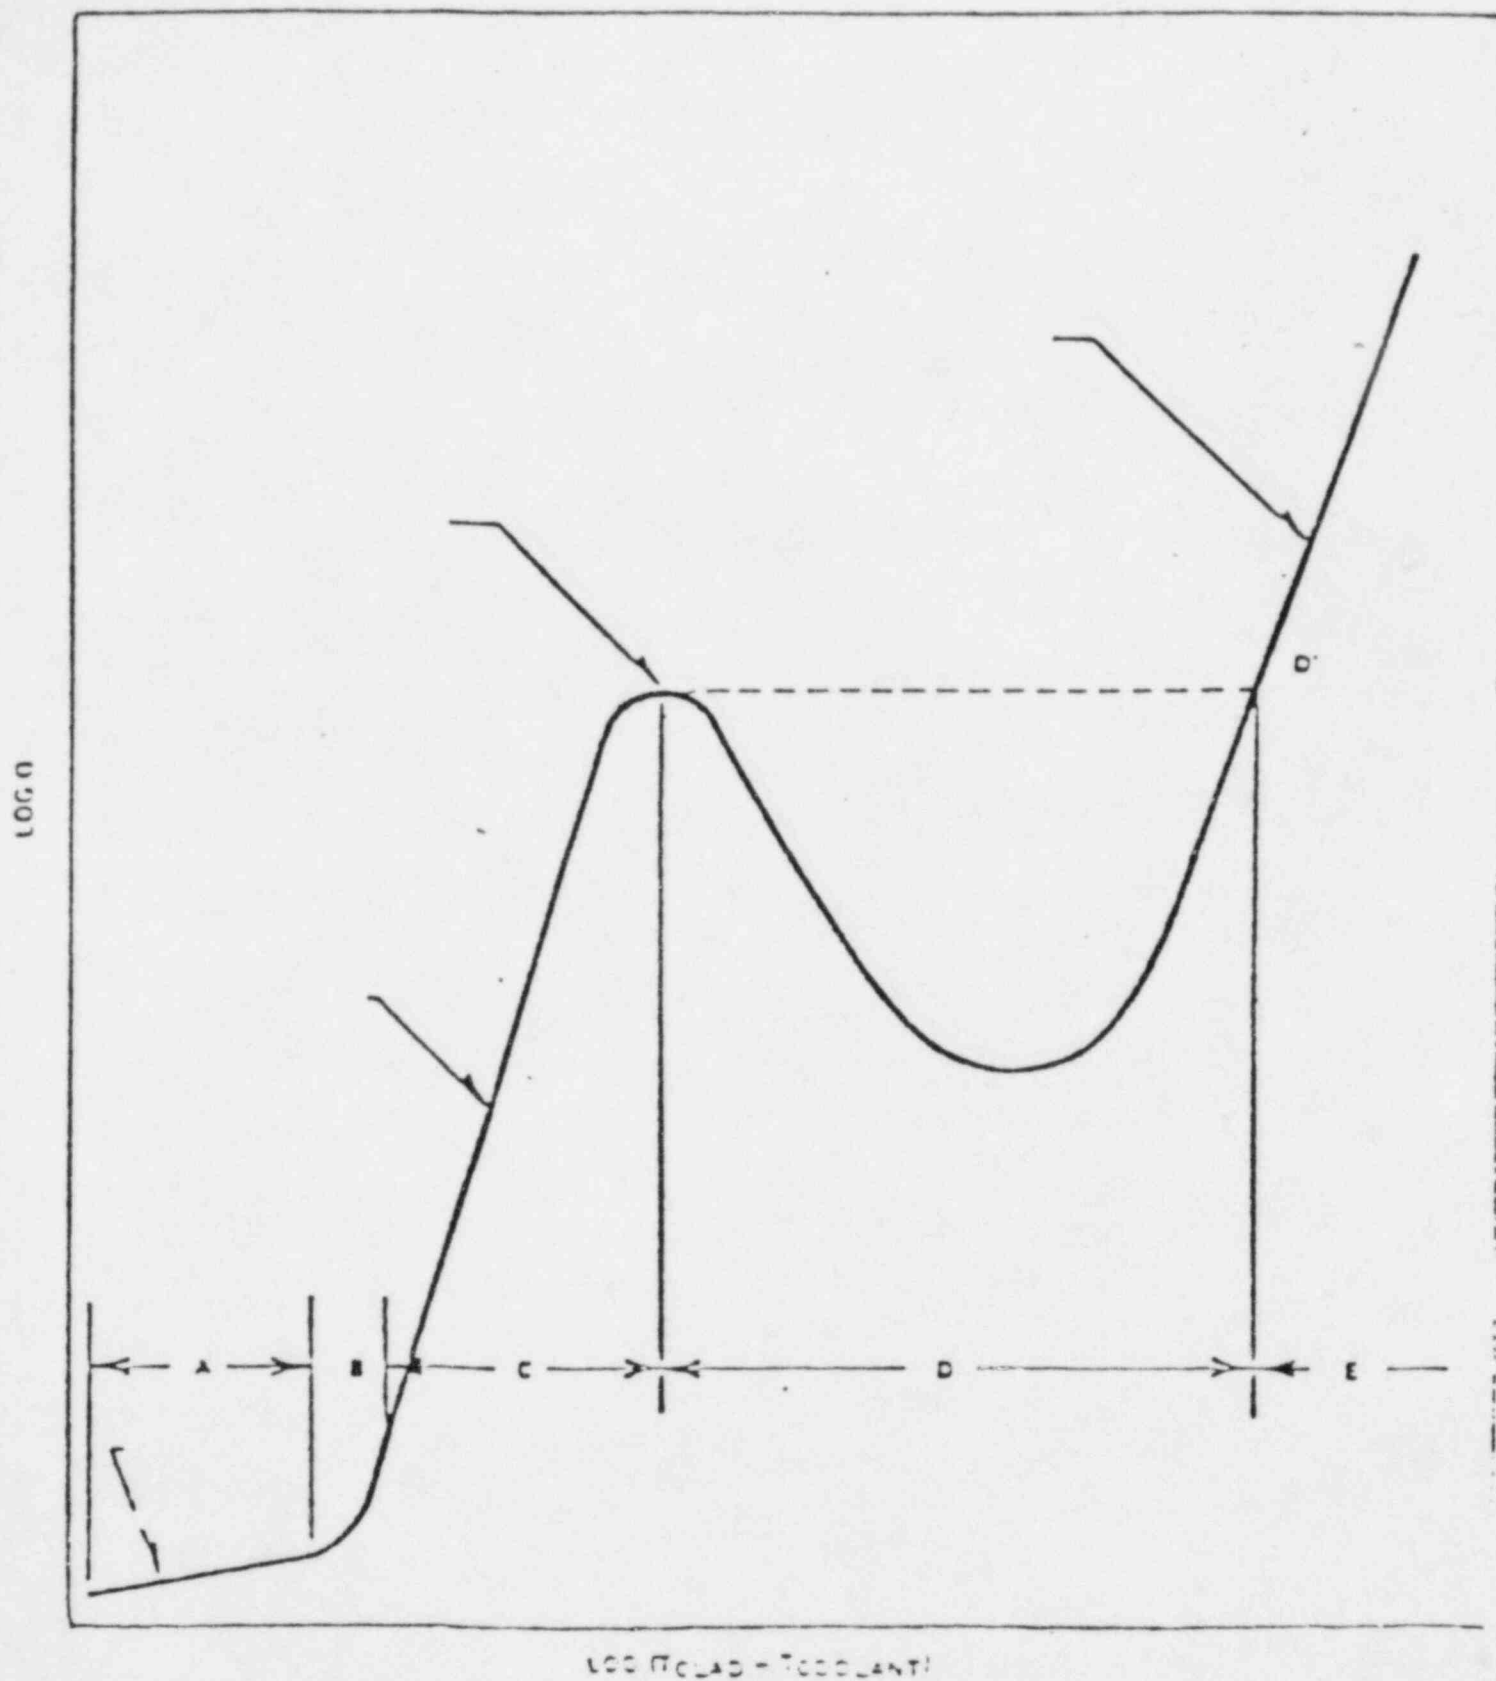

Figure 1. Heat Flux Versus Temperature Difference Between Cladding and Coolant
5.24 Referring to the attached curve (Fig. 1), which of the following regions on the curve is associated with the heat transfer mechanism known as "transition boiling?"